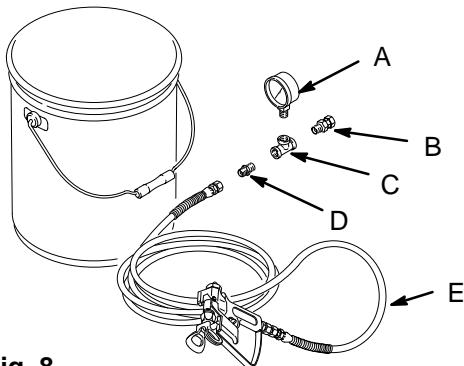

Fig. 8
2. Set up the system as shown in Fig. 8.